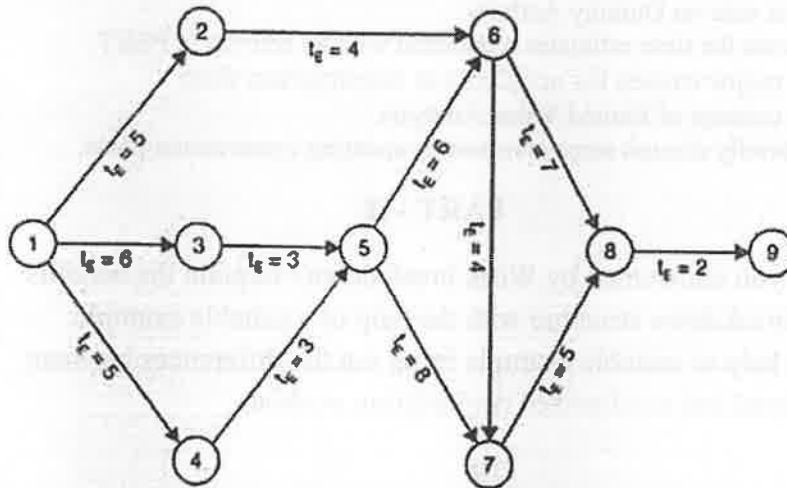

Figure 1: Network diagram for Q3 (ii)
- (ii) Determine the critical path for the network shown in Figure 1 using PERT. Numbers indicate time in weeks.